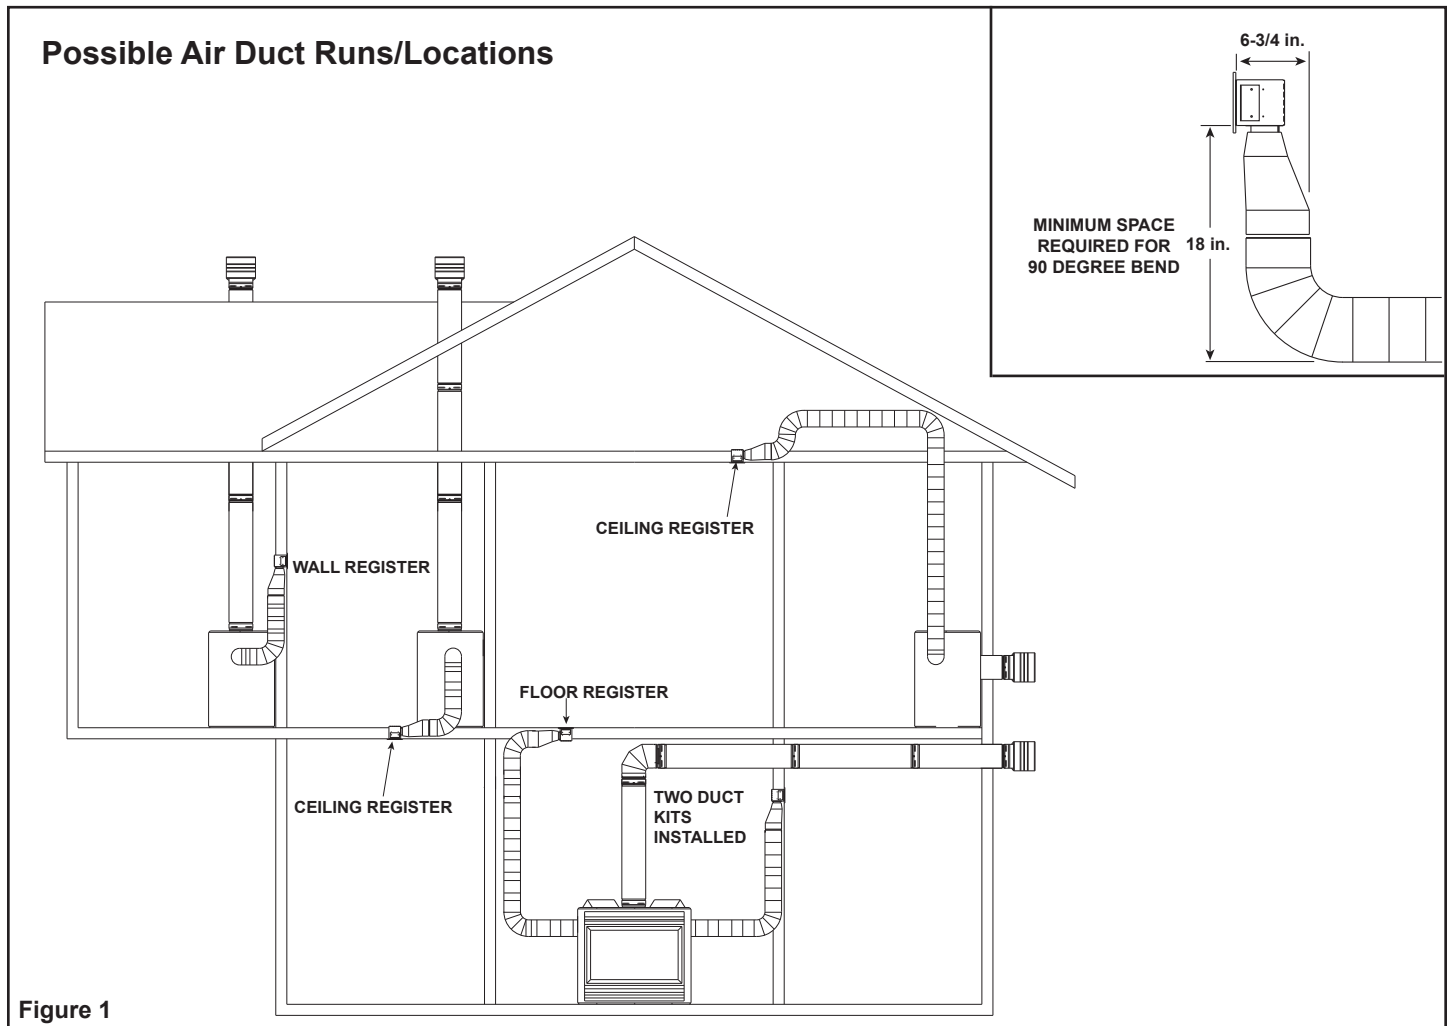

Figure 1
The Heat-Zone-Gas accessory kit conveys warm air from the fireplace through air duct(s) to remote locations in the same room or other rooms of the building. See Figure 1. One or two Heat-Zone® Gas kits can be installed on the fireplace.
1. Plan the location of the fireplace and the warm air duct run(s). See Figure 1 for potential installation options.